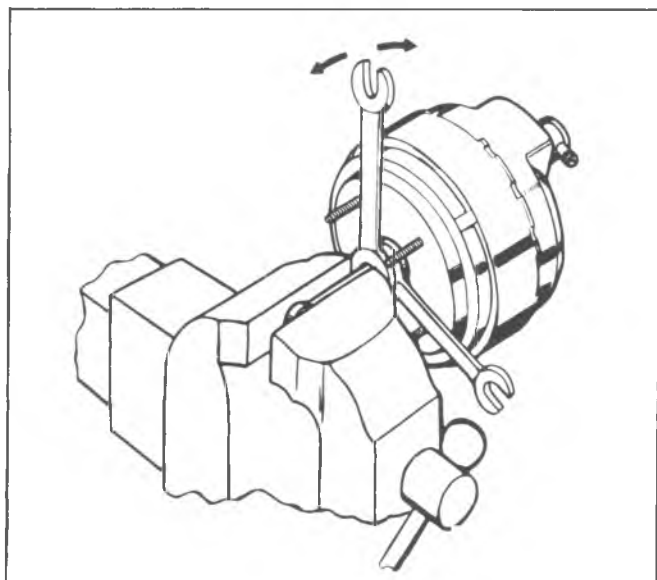

Fig. 5-1B--Removing Air Valve Rod
7. Position two small blocks of wood on either side of air valve rod and install end of air valve rod in vise, leaving just enough clearance to position two (2) open end wrenches between the vise and retainer on hub of rear plate.
8. Using the wrench nearest the vise as a pry, force the air valve off the ball end of the rod. **DO NOT** damage the plastic hub or allow vacuum cylinder to fall to the floor (fig. 5-1B and 5-2B).